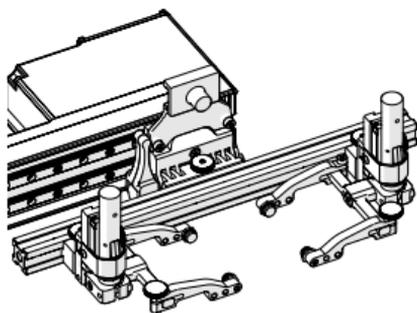

Fig. 144 - Mount probe holders
6. Follow the steps (*see "Vertical Probe Holder" on page 16*) to mount and set up the vertical probe holders (*Fig. 144*).